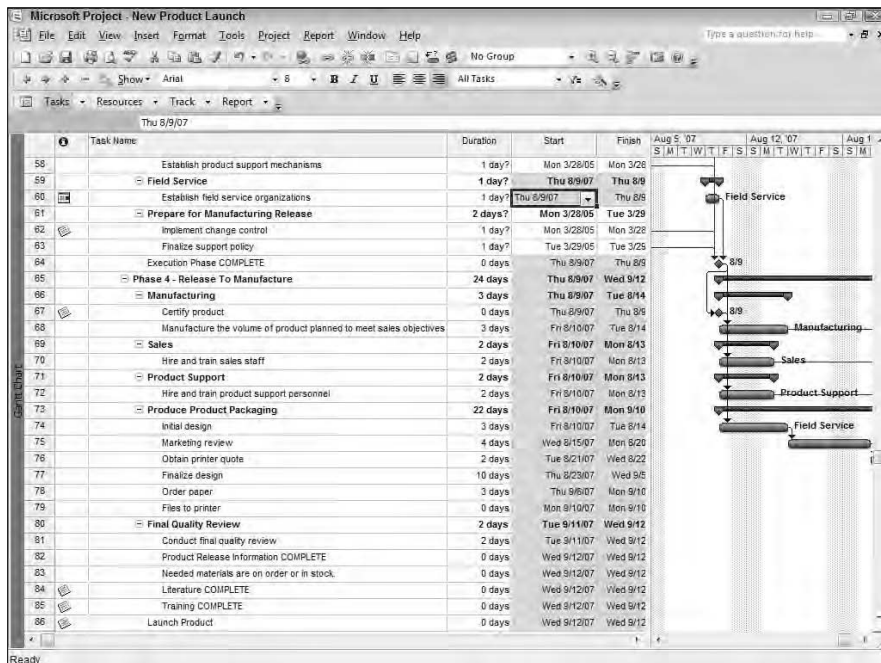

Figure 4-2:
- ◆ Use Change Highlighting (see Figure 4-2) to show how certain changes affect the schedule. If you changed the duration for a certain task in your project, you can highlight how that change had an impact on several others.